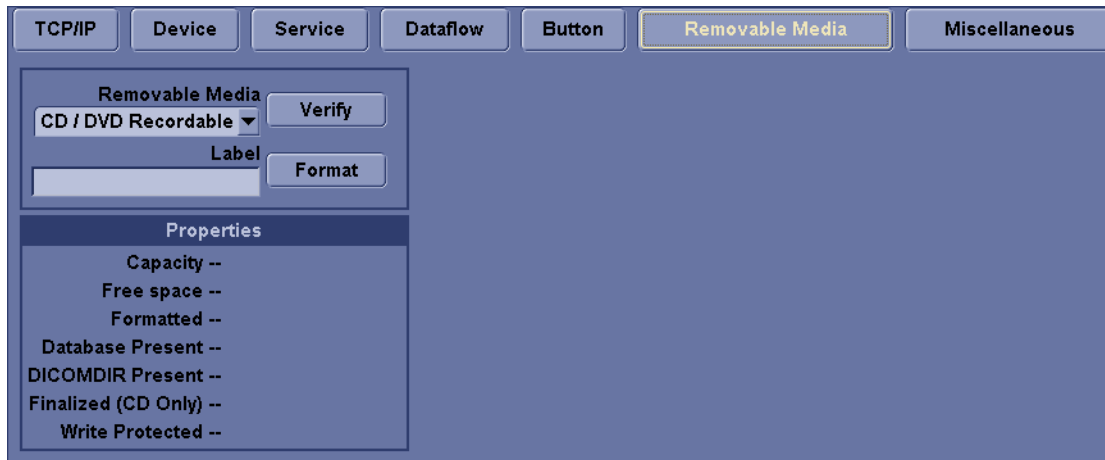

Figure 4-16 Format and Verify Media
- 4.) Enter the label for the media as shown in Figure 4-16. It is best to use all capital letters with no spaces or punctuation marks. Press **Format**.
- 6.) If desired, verify that the format was successful by returning to **Utility->Connectivity->Removable Media** and selecting **VERIFY** as shown in Figure 4-16.